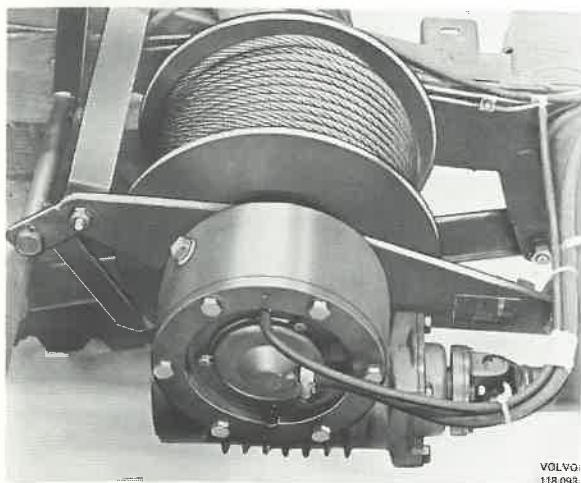

Fig. 92-39. Winch in vehicle
11. Release the tensioning bolt (1) at the leading attachment, see Fig. 92-39.